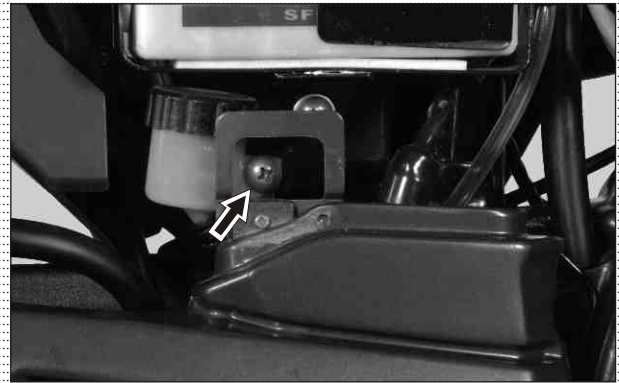

Fig. 6.128
- Remove CRR pan head screw (M6x16 - 1 no.) from the reservoir mounting. (Fig. 6.128) (In case of disc brake model)